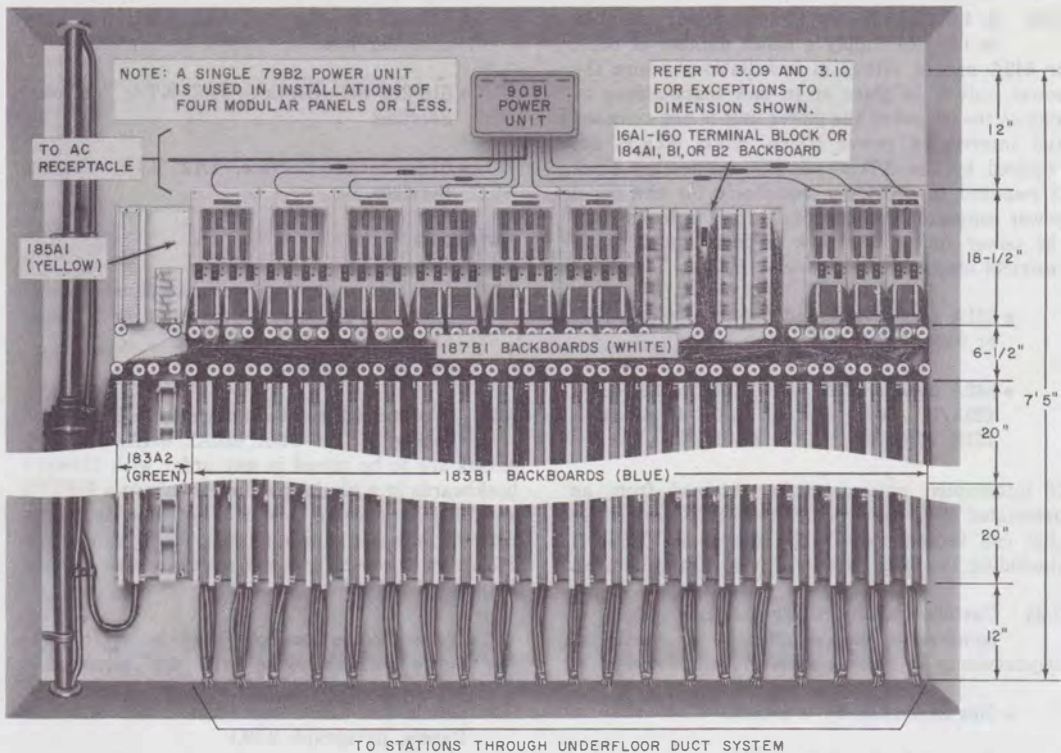

Fig. 7—Centralized Terminal Field, Typical Arrangement of Modular Apparatus
3.08 A preferred installation method is illustrated in Fig. 7. The 620A, 620A2, 641A, and 642A panels are to be mixed in any order with 184-type backboards in a single row directly above a WHITE and BLUE backboard field. Do not leave any space between adjacent panels unless stacking panels (see *Note*) or if covers and end panels are to be used (paragraph 3.09).
3.09 A recommended sequence for mounting modular panels, backboards, and power units is as follows (see Fig. 7):
Note: The 16A1-160 terminal blocks or 184A1, B1 or B2 (RED) backboards may also be intermixed with modular panels as desired to provide station terminations in excess of the panel terminal capacity (see Fig. 7 or 8). The 16A1-160 terminal block is the same height as the modular panels and half the width of a 620A panel. Two connecting blocks are provided which duplicate the designations and quadrants of a 620A panel. If required, the terminal blocks will accept 152A covers and 153A end caps.